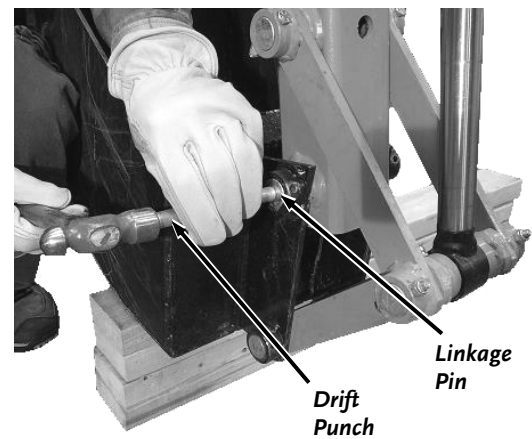

Figure 38
3. Use a Drift Punch to remove the two Linkage Pins from the Bucket (*Figure 38*).